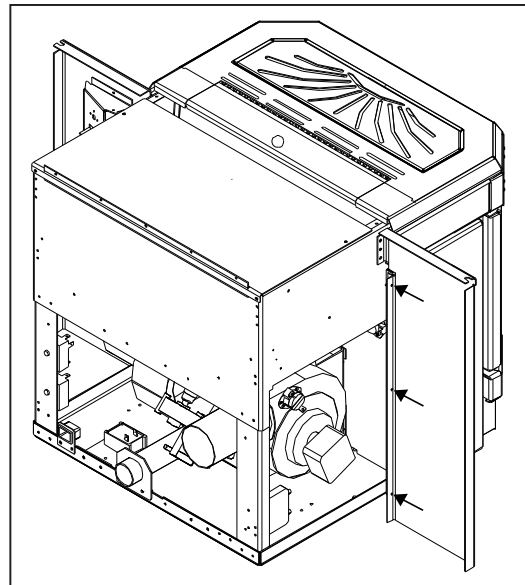

Figure 38: Panel placed on unit.
3. Using three (3) T-20 screws on each side attach the hinges on the side surround panels to the unit's side panels (refer to Figure 38).
6. Insert each side panel anchor bolt through the top panel into the corresponding side panel holes and tighten using a $\frac{7}{16}$ " wench or socket (refer to Figure 38).